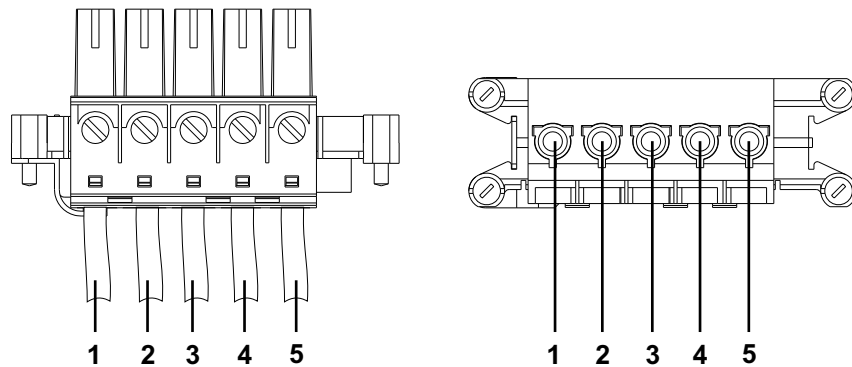

Fig. 8 Connecting provided power supply plug to AC lead
- ➡ Connect provided power supply plugs to AC lead (see Fig. 8).